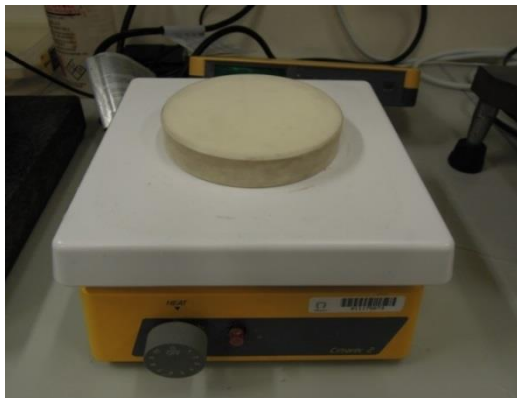

Fig. 2
- 3) Turn on the hotplate, as shown in Fig. 2, adjust the knob to position 6-7, wait for 3~5 minute.